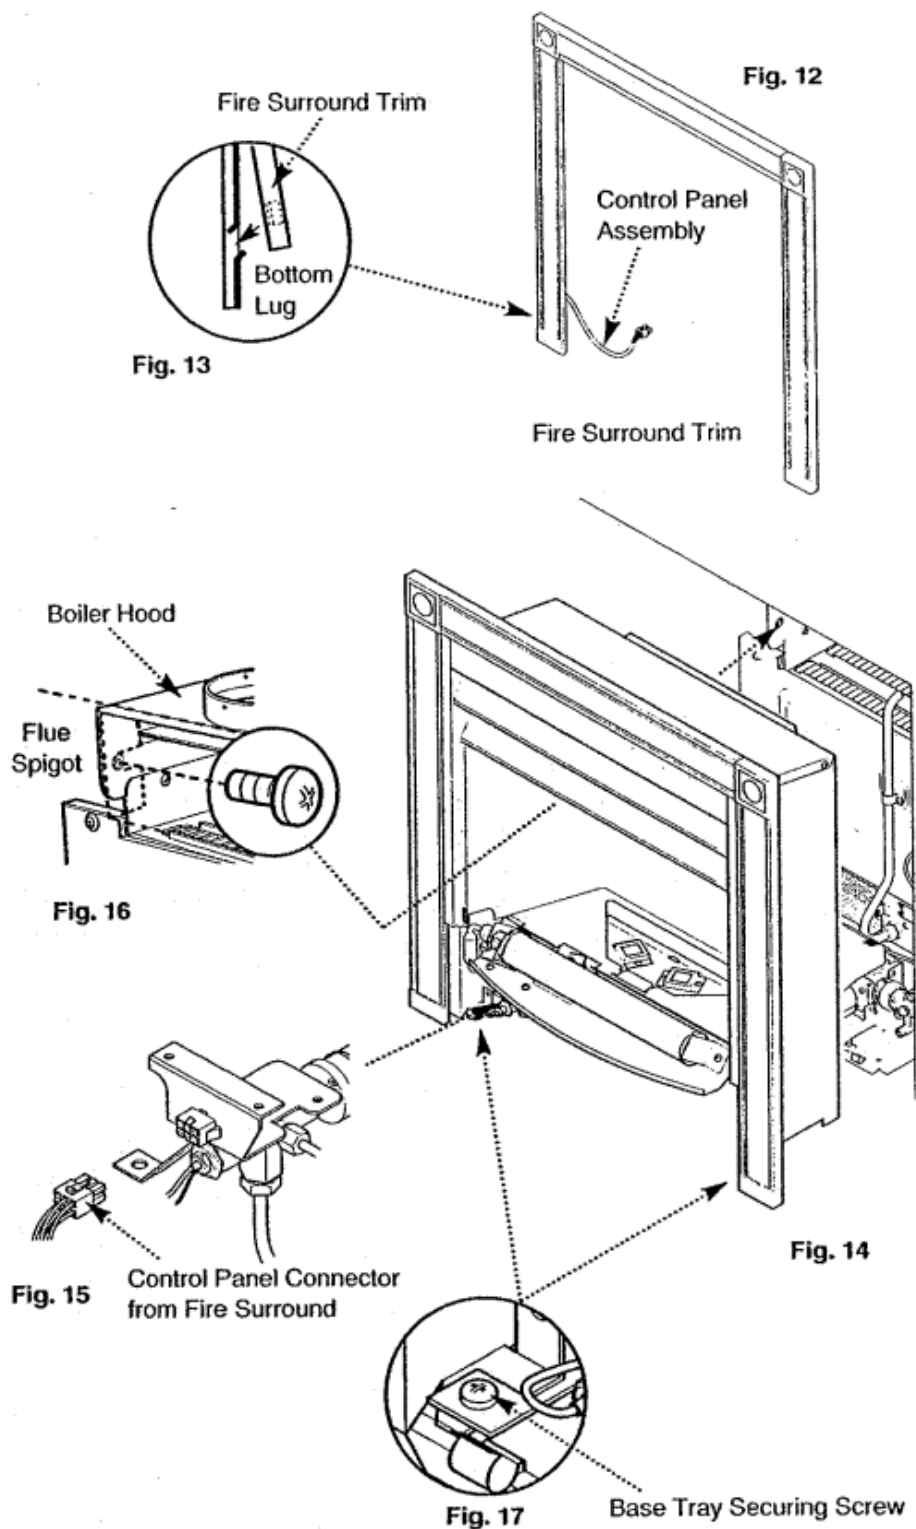

Fig. 12,13,14,15,16,17
1. Remove the fire surround trim from its poly bag (Fig. 12). The fire surround should be handled with care.